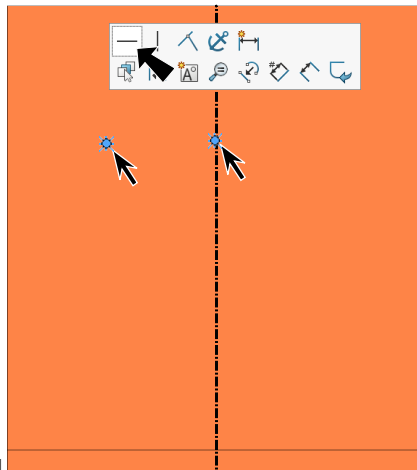

Fig. 24
Step 8. **Ctrl click both points** to select both. Release Ctrl key and click **Make Horizontal** on the context toolbar, Fig. 24.